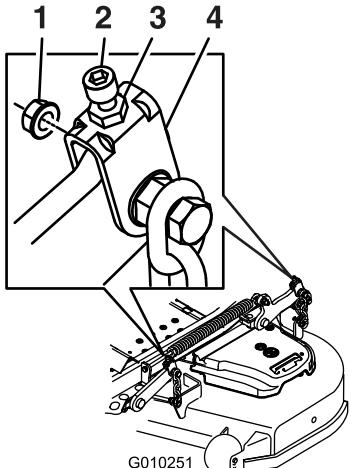

Figure 89
- If needed, loosen the whizlock nut on the side of the yoke and the jam nut on top. Fine tune the screw adjuster by turning it to get 3 inch (7.6 mm) height (see Figure 89).
- Fine tune the screw adjuster by turning it to get 3-1/4 inches (8.3 mm) height (Figure 89).